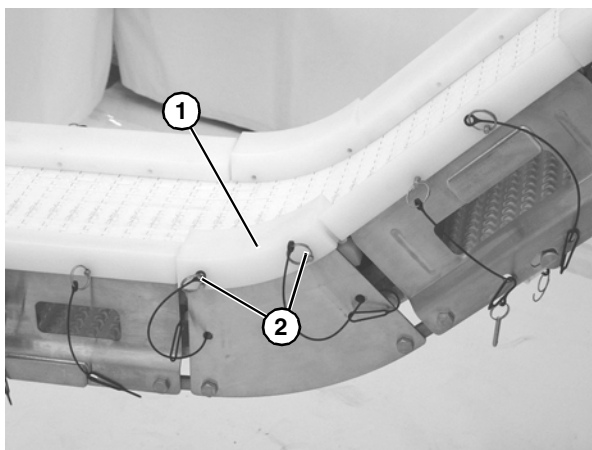

Figure 11
3. Slide guides (**Figure 11, item 1**) onto lower knuckle frame, and secure with pull pins (**Figure 11, item 2**).